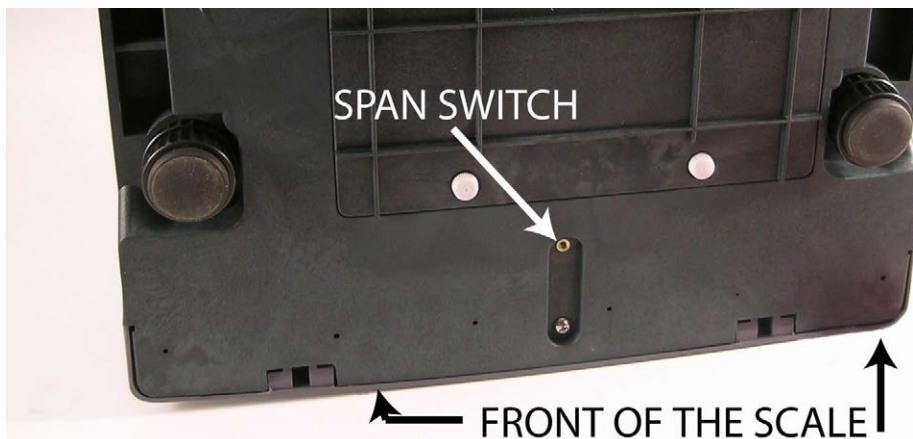

Figure 4-1. Location of Span Switch
1. Turn the scale on, then press the span switch to reset it (see Figure 4-1).